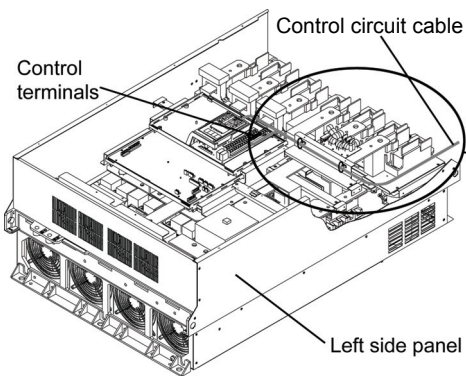

Figure 3-3-18
- (a) Pull the wiring out along the left side panel as shown in Figure 3-3-18.
- (a) Similarly to Fig. 3-3-18, pull along the left side plate of the inverter.